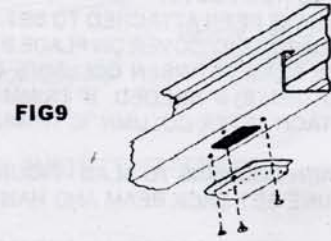

FIG 9
STEP 8 - ATTACH DRAIN CAPS - FIGURE 9
SET COLUMN INTO BOTTOM FLANGE AND DRILL 5/16" HOLE THROUGH FLANGE AND COLUMN. ATTACH FLANGE TO BOTTOM OF COLUMN WITH 1/4" X 2" NUT AND BOLT (FIG 9) NOTE: IN THE CASE OF A SCROLL COLUMN THE BOTTOM OF THE COLUMN IS THE END WITH THE GREATEST DISTANCE TO THE SCROLL.